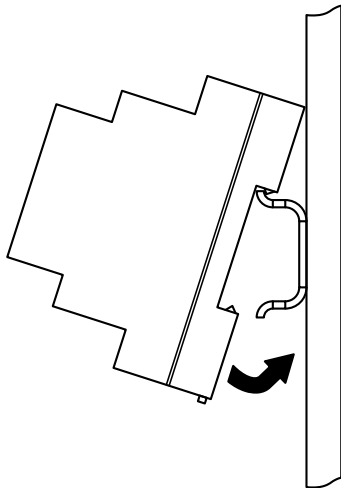
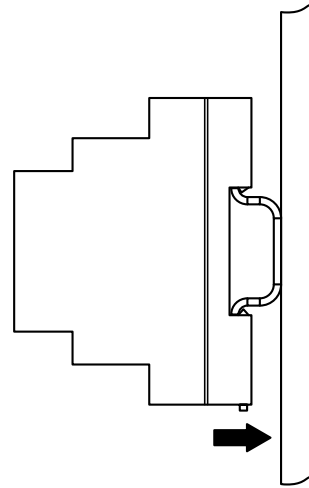
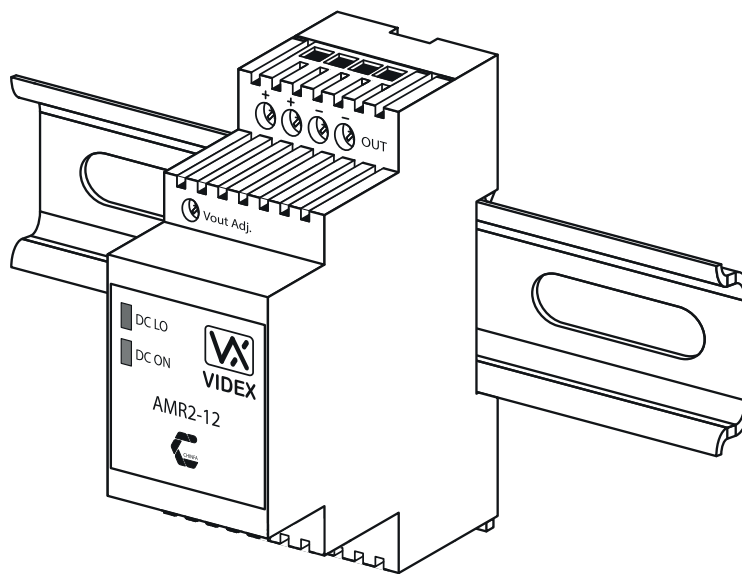

Fig. 30
Fig. 31
Fig. 32
- Fix the power supply to a DIN rail (following **Fig.30**, **Fig.31** and **Fig.32**).